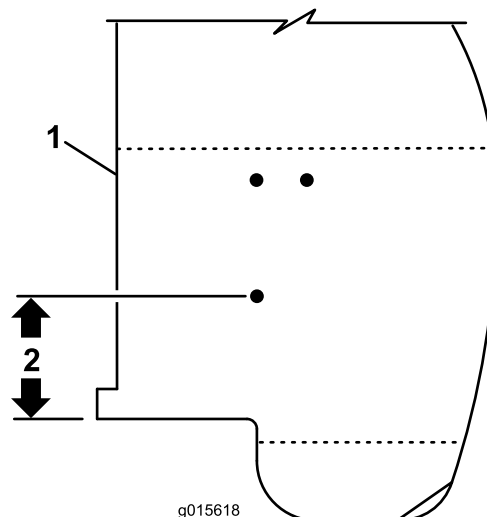

Figure 2
- If the rear hole is located 2.74 inches from the edge of the fender as shown in Figure 2, the